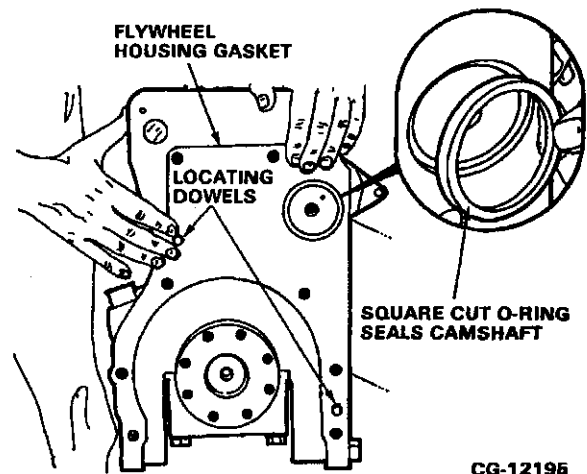

Figure 7.80. Install Flywheel Housing Gasket and Camshaft O-Ring
- a. Install a new square cut O-ring to seal the camshaft and a new flywheel housing gasket over the locating dowels. Use grease to hold the gasket in place. Refer to Figure 7.80.